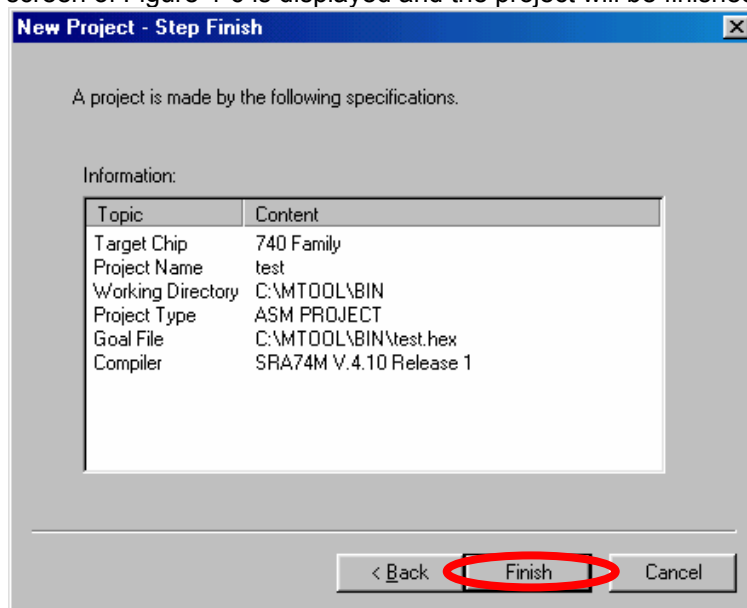

Figure 4-6 Screen of New Project Step-Finish
8)A screen of Figure 4-6 is displayed and the project will be finished.